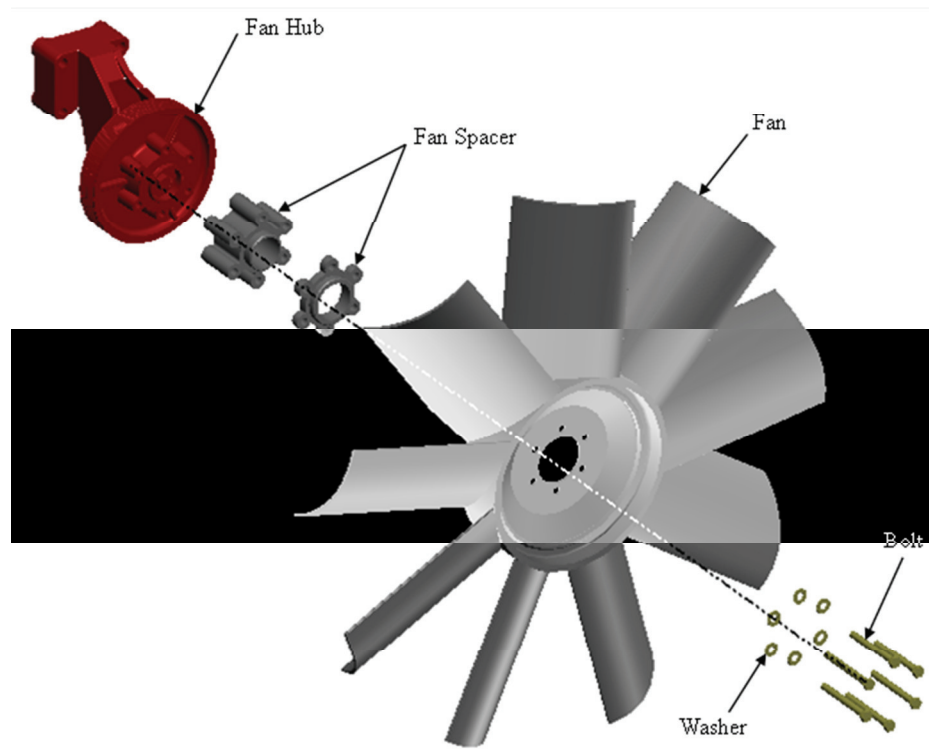

FIG. 3-1
9. Install the supplied six (6) fasteners and washers and torque in a crisscross pattern to 33-37 lbs. ft. Refer to FIG. 3-1.